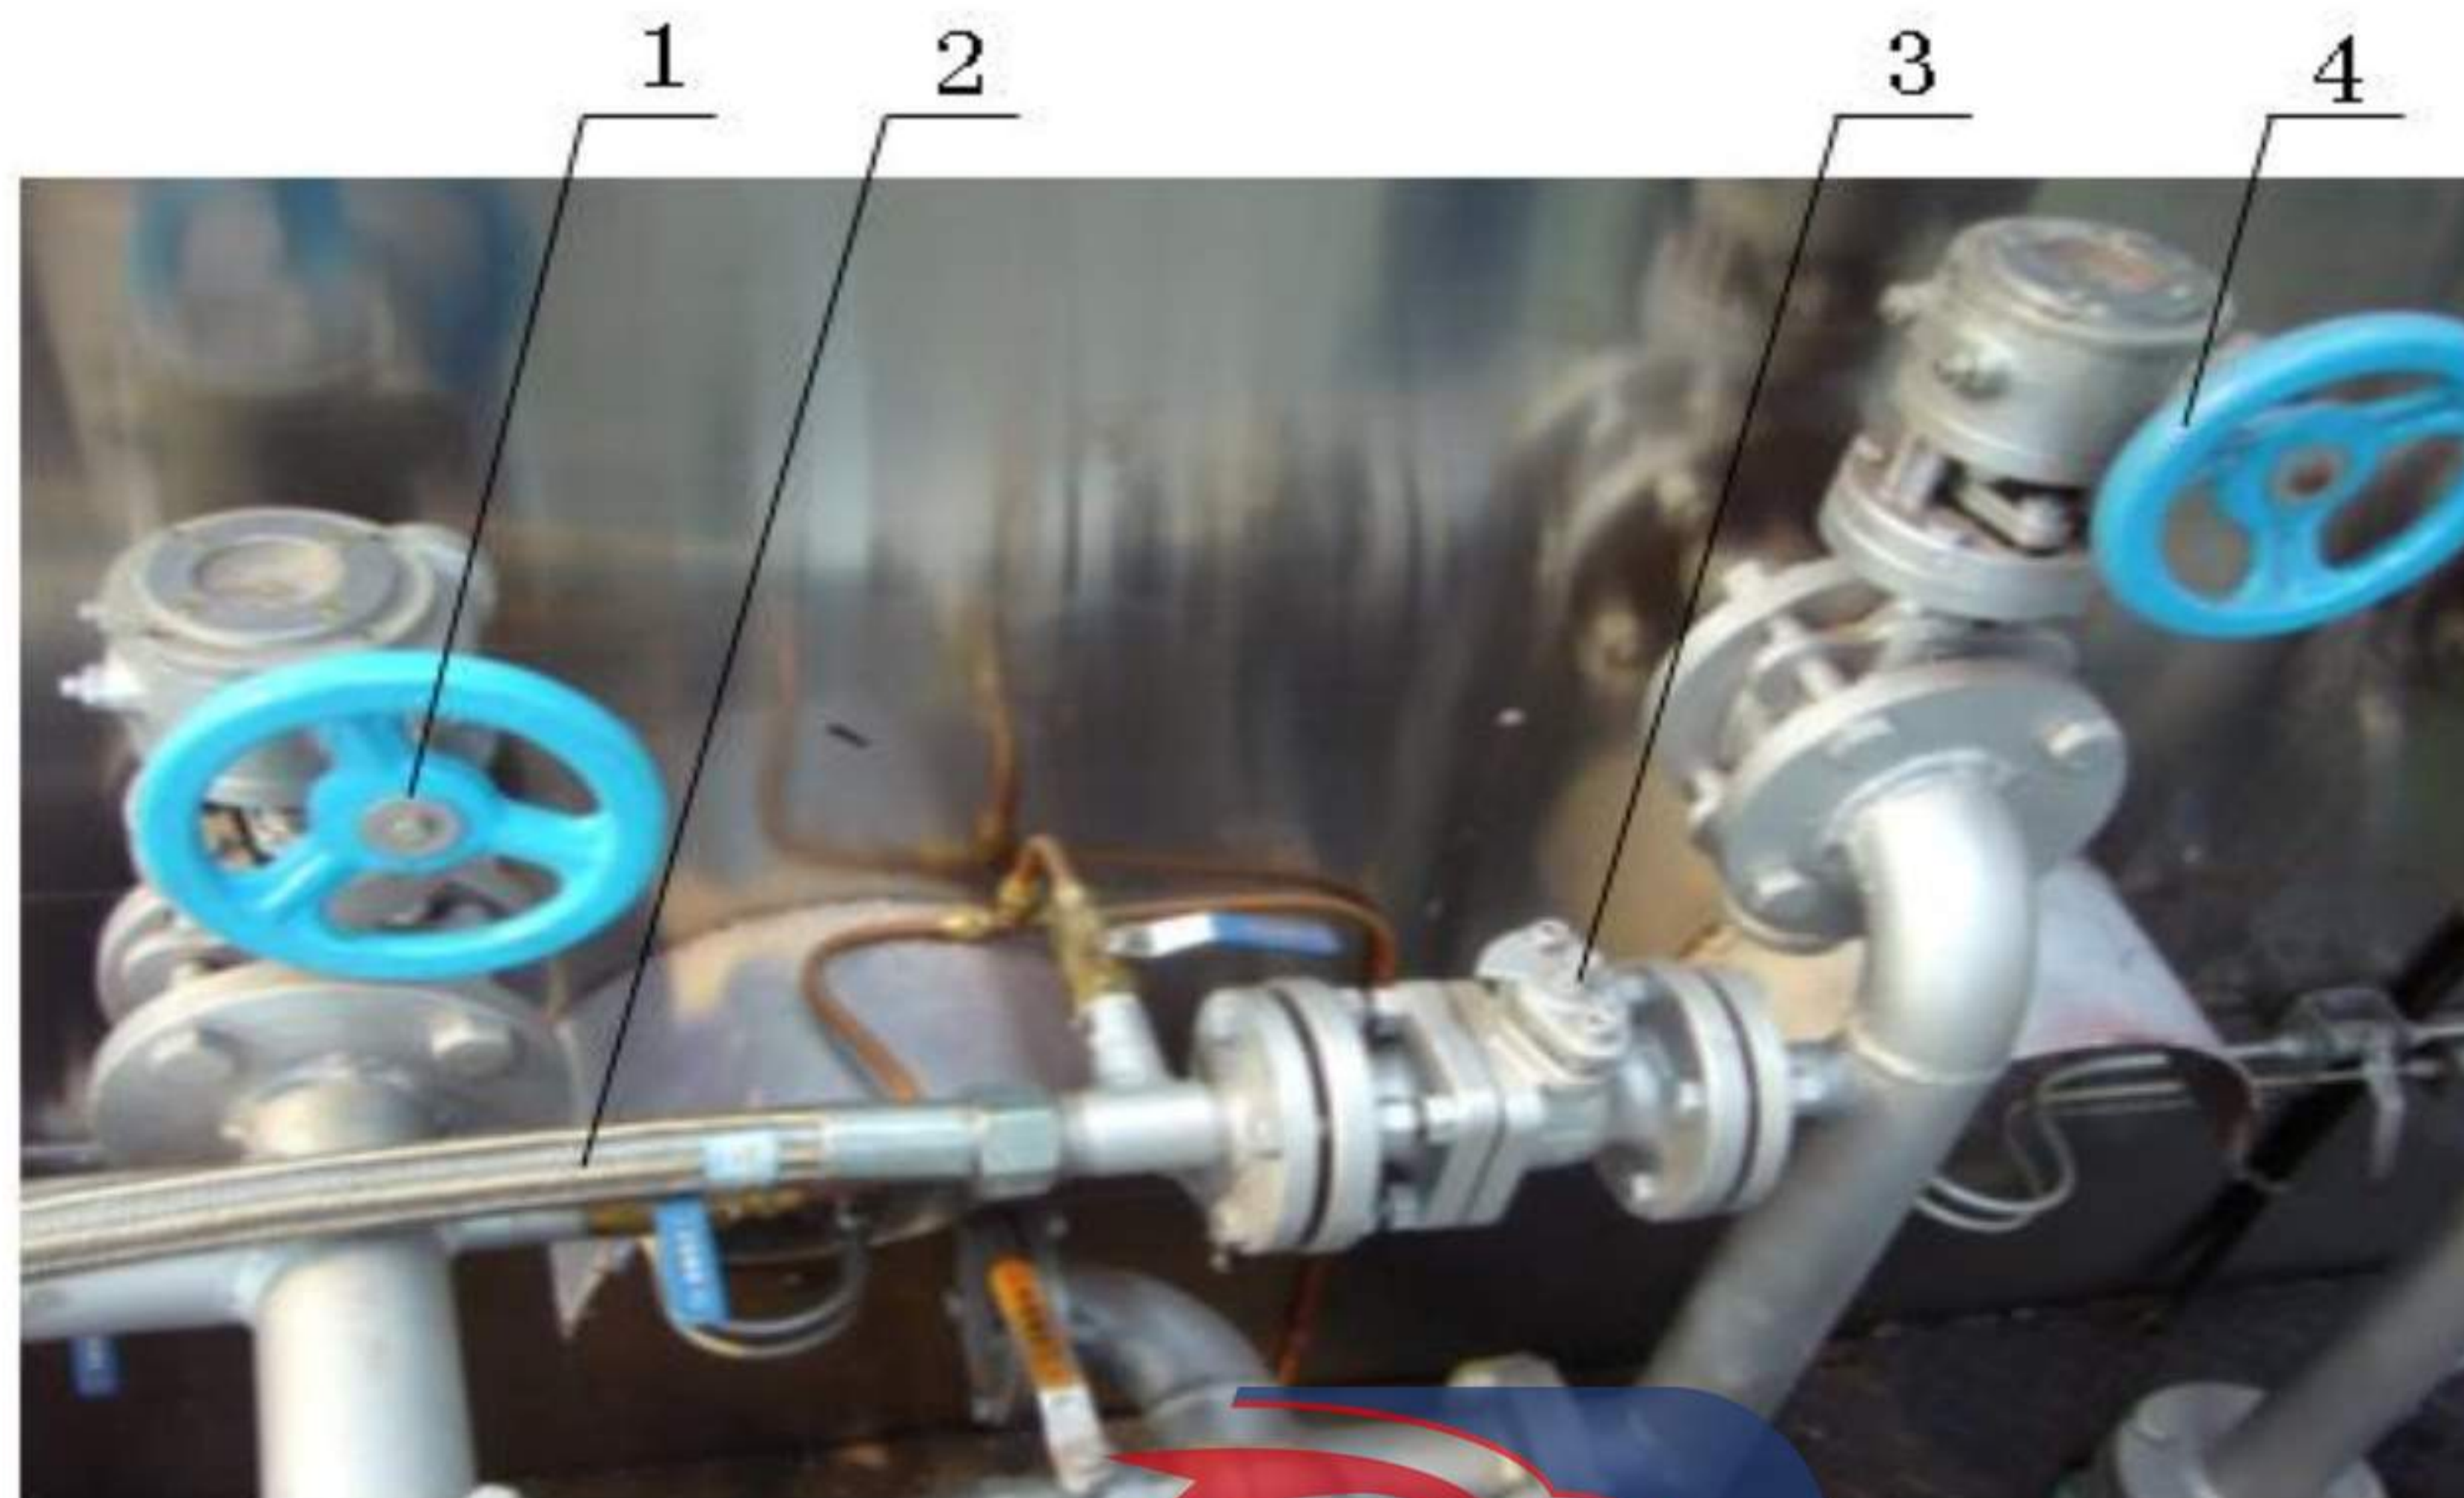

Fig. 13 Operation valve for handheld spray bar
- 6、 Drive the truck at a constant speed in a linear way while monitoring the actual spray rate through the spray rate display (as shown in Fig. 13). When reaching the point where spraying is stopped, turn off the spray switch, and then turn off the asphalt pump switch to end spraying operation.
1. Connect the rubber hose and handheld spray bar to the handheld spray bar valve as shown in Fig. 13.